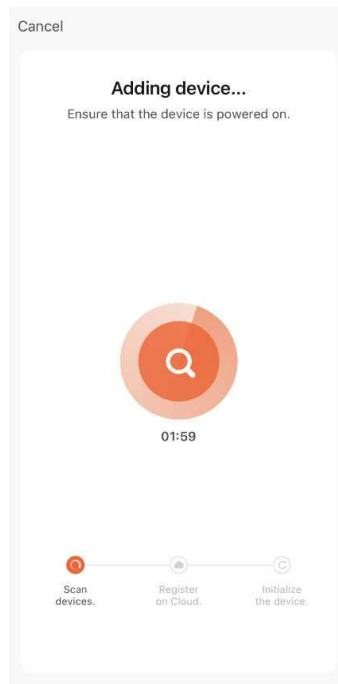
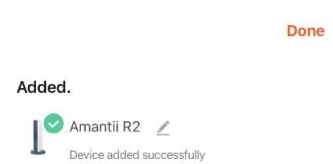

FIG.6
FIG.7
4. The APP will scan (FIG.6) and add the fireplace to APP (FIG.7) automatically. Please make sure the Wi-fi account and password you set are correct and Wi-fi signal is good.
5. Touch “Done” to finish Wi-fi setting.(FIG.7)